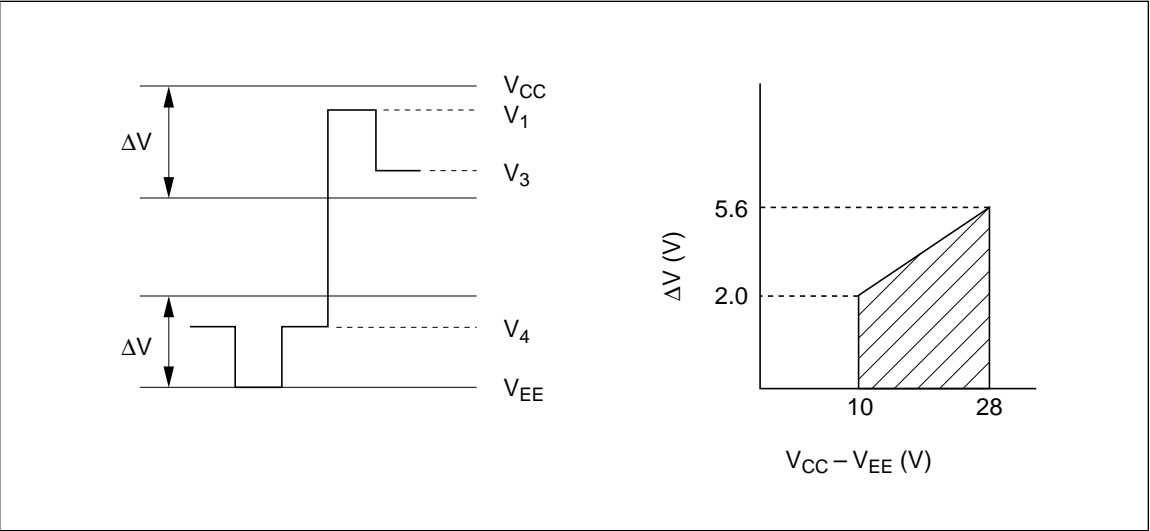

Figure 3 Relationship between Driver Output Waveform and Level Voltages
- Describes the voltage range for the liquid-crystal drive level power supply. A voltage near V_{CC} is supplied to V_1 and V_3 . A voltage near V_{EE} is supplied to V_4 . Use within the range of ΔV for each. These ranges should be set so that the impedance ROM of the driver output obtained is stable. Note also that ΔV depends on the power supply voltage ($V_{CC} - V_{EE}$). See figure 3.